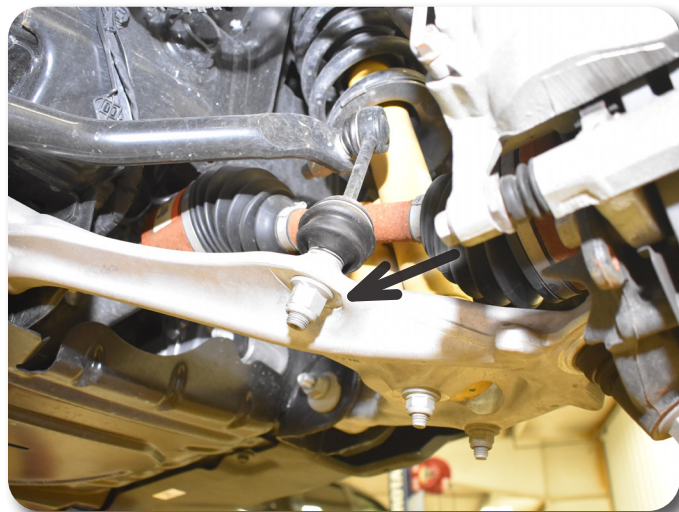

Figure 1
5. Disconnect the driver's and passenger's side front sway bar links from the steering knuckle. Save sway bar link nuts. **Figure 1**